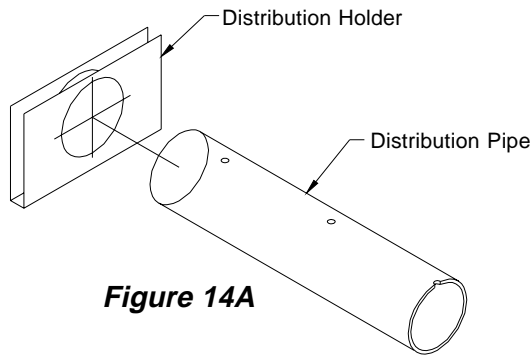
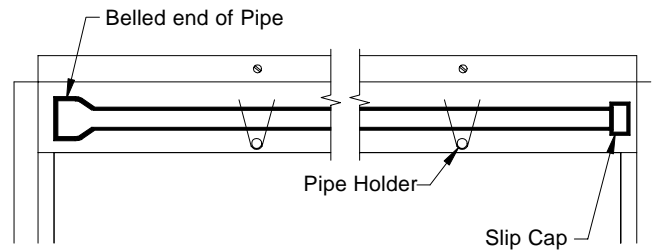
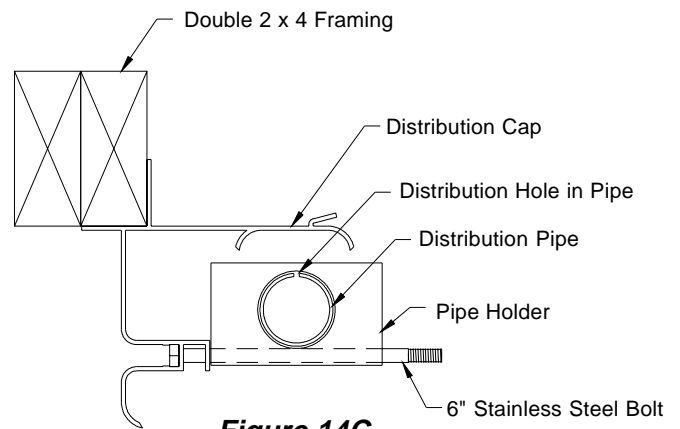

Figure 14A
Figure 14B
Figure 14C
- 22) Slide pipe holders over distribution pipe, one for every 2' of pipe. **See Figure 14A.** The section of pipe with the slip cap will go on the end opposite the supply / pump end. For systems longer than 12', connect sections of pipe together keeping holes aligned. **See Figure 14B.** Position pipe and pipe holders in distribution cap on stainless steel bolts. Rotate pipe so that holes are straight upward (12 o'clock). **See Figure 14C.**